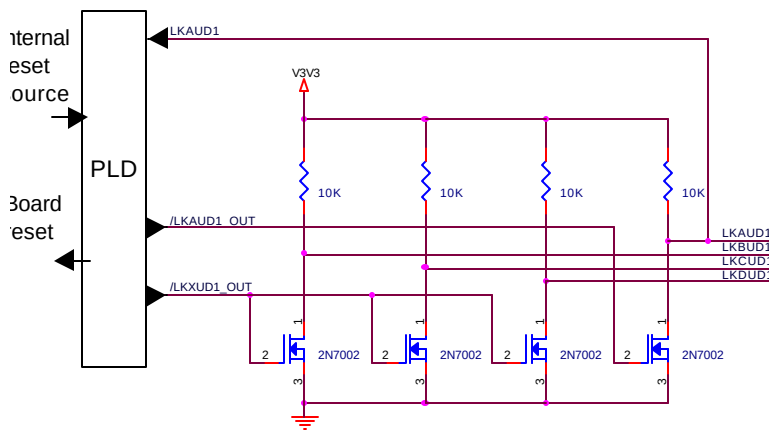

Figure 4. Example ADSP-21160 board
Figure 4 shows an ADSP-21160 board with four link connectors, one boot link connector (A), and three other link connectors (B, C, and D) on its front panel.